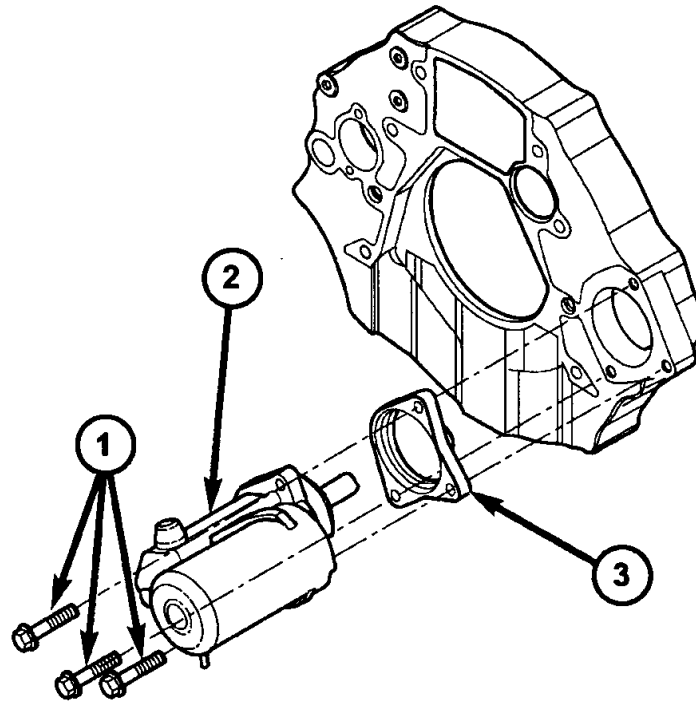

FIGURE 3
5. Remove the three (3) starter mounting bolts (Figure 3).
35. Position the starter into the bell housing (Figure 3). Install the three (3) starter mounting bolts and then tighten the bolts to 32 ft–lbs (43 N·m).